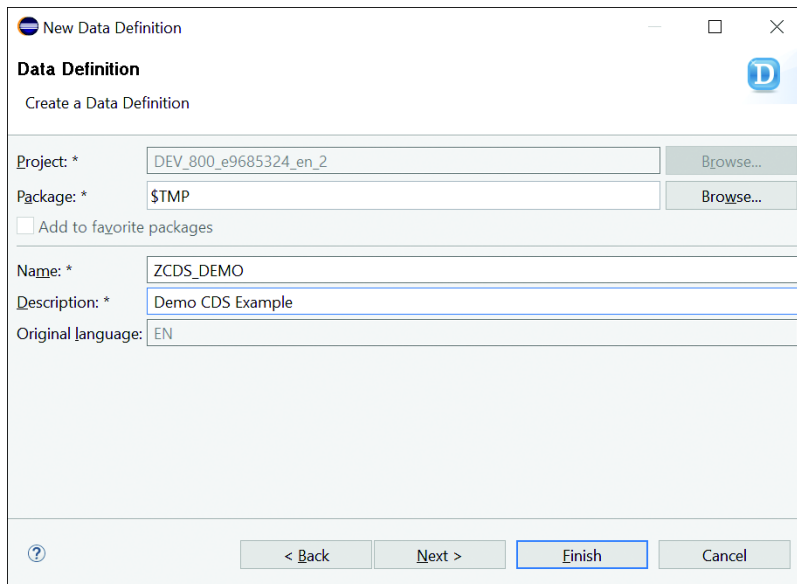

Figure 10.47 Create Data Definition
4. In the **NEW DATA DEFINITION** window, enter the name and description for the ABAP CDS view, as shown in Figure 10.47. Click **FINISH**.